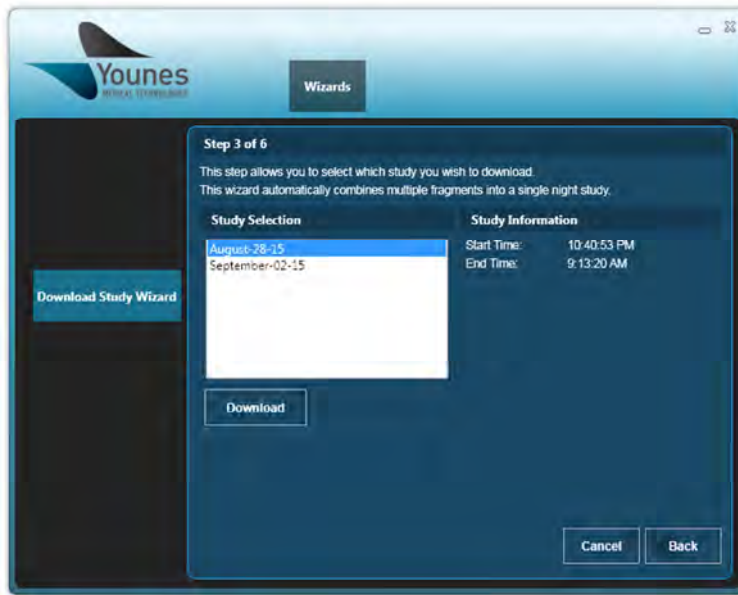
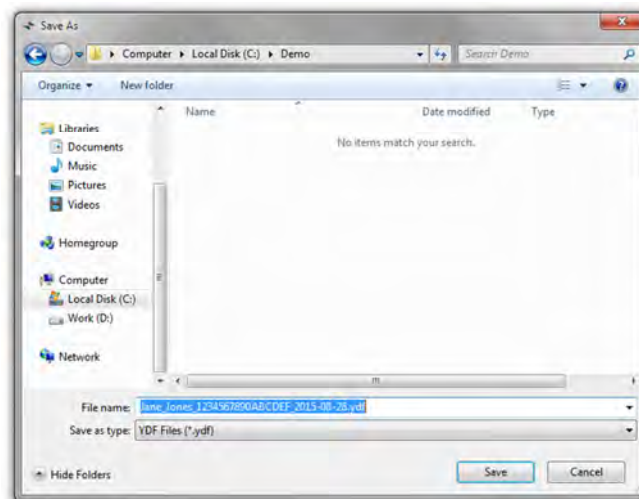
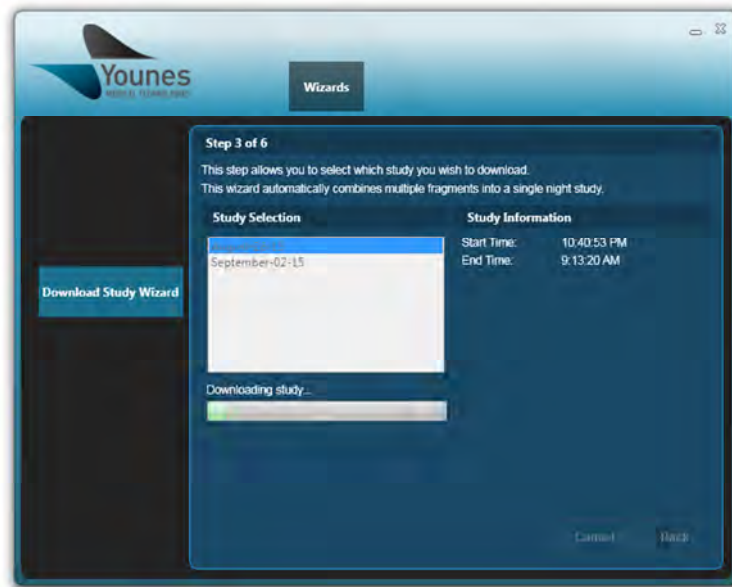

Figure 74 – Windows PC Prodigy Application Study Selection Screen (Download Study Wizard)
Figure 75 – Windows PC Prodigy Application File Save As Screen
Figure 76 – Windows PC Prodigy Application Download Progress Screen (Download Study Wizard)
8. As shown in Figure 74, a list of studies associated with the patient you selected will be displayed. Select the study you wish to download, and click “Download”. This will provide you with the ability to select where to save the file, shown in Figure 75. While a download is in progress, you will be unable to navigate to another section of the PC Application. Download progress is shown after a file location has been chosen, as shown in Figure 76.
6. A dialog box will appear providing you with the opportunity to select where to save the file and to choose the file name, as shown in Figure 75. Select “Save.”